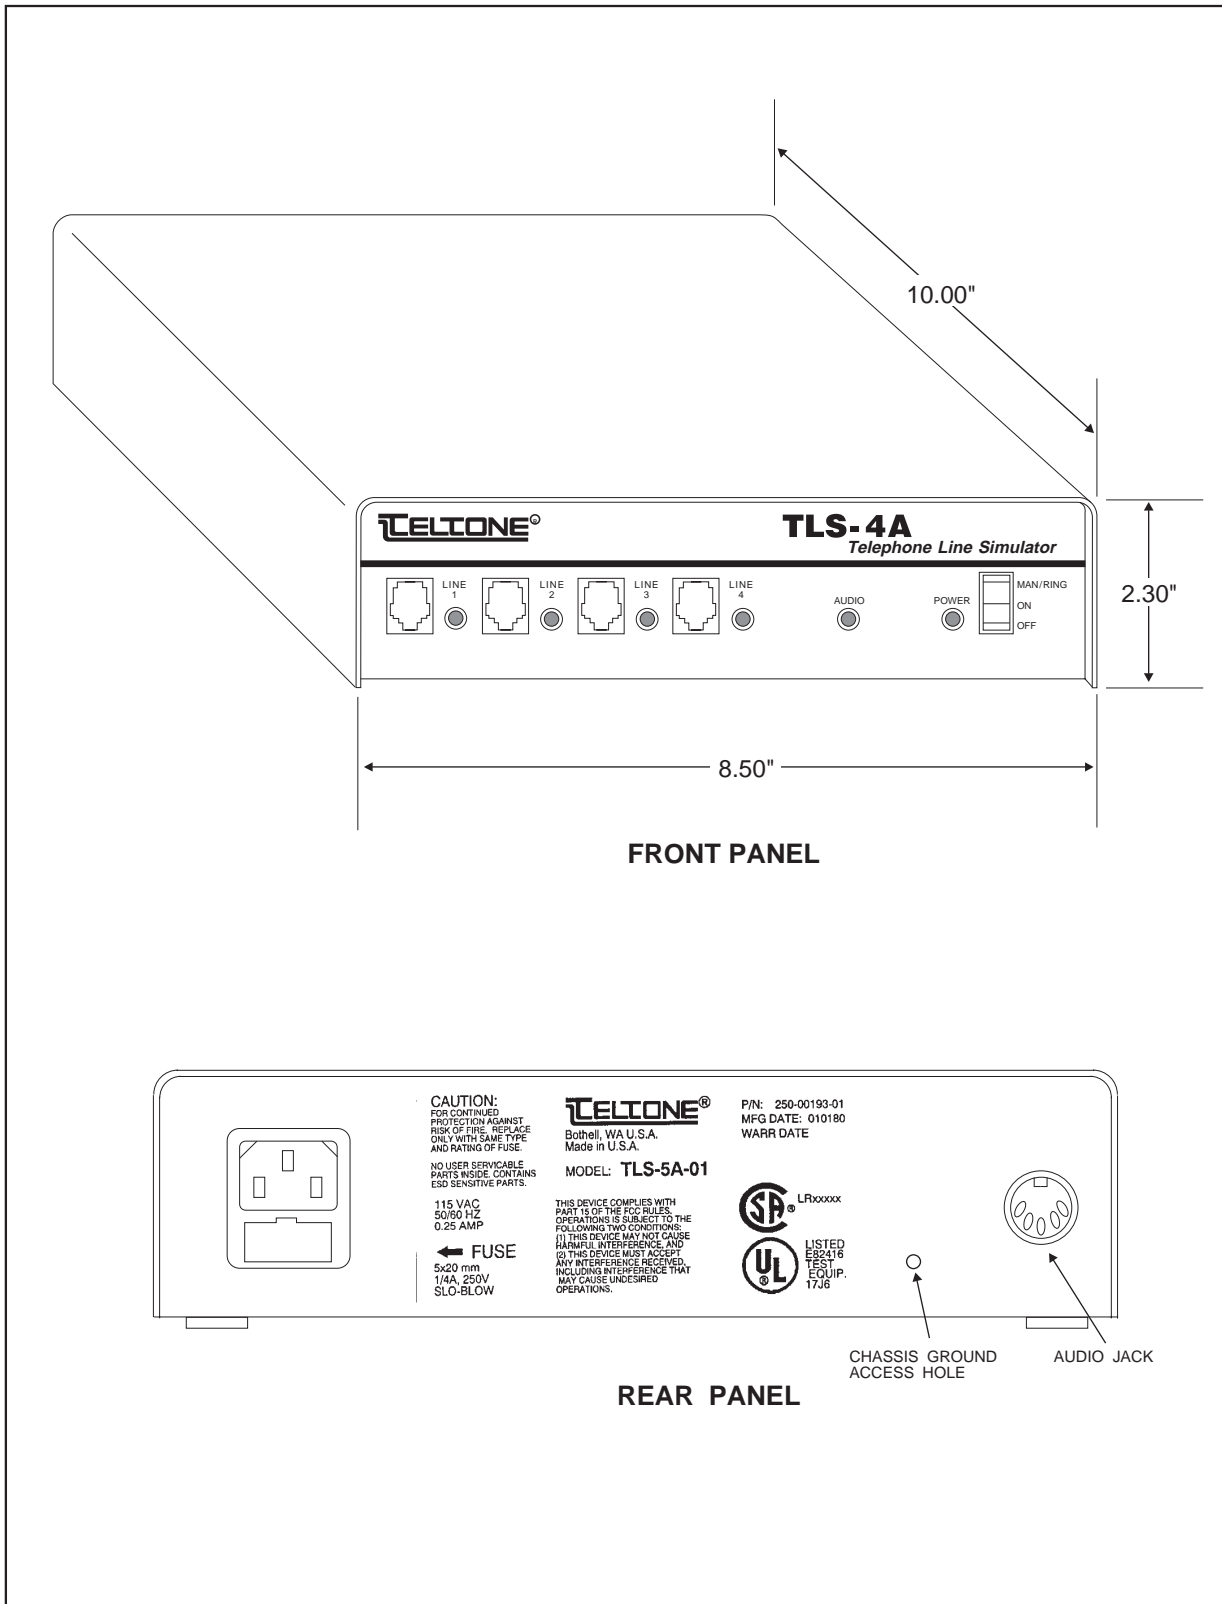

Figure 1 Telephone Line Simulator (TLS-4A)
The TLS-4A is a portable unit weighing just over 4 pounds. A detachable power cord is supplied with the TLS-4A. As shown in Figure 1, the front panel provides: four modular RJ-11 jacks for connection of the equipment to be demonstrated or tested, a multifunction switch (see Table 1), and the indicators listed in Table 2. A 5-pin DIN jack on the back panel enables sending or receiving audio to/from any line. The audio is turned on or off by a software-driven relay. A fused, modular AC power jack and an optional chassis ground reference point are also located on the back of the unit.
- If a chassis ground is required, plug a 0.080-inch diameter pin probe into the chassis ground reference Jack on the back panel. The location is shown in Figure 1.
- If a ground reference is required, connect a 0.080-inch diameter pin tip probe to the chassis ground reference jack on the unit back panel (Figure 1).